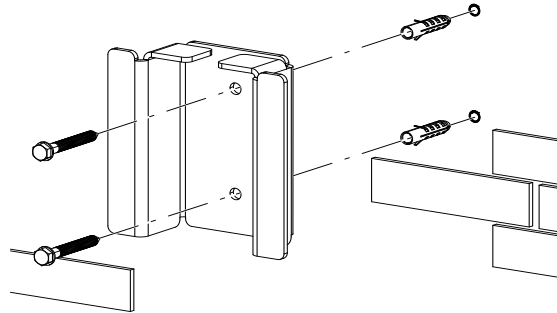

Figure 4. Installing Mounting Bracket on a wall
9.1 Using the top mounting bracket as a guide, mark the location of the bracket mounting holes on the wall as shown in Figure 4 and mount the top bracket to the pole using a through-bolt or threaded rod.